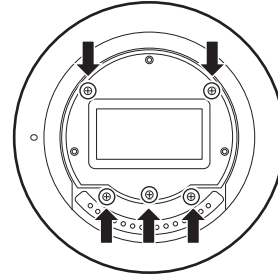

Fig. 2
- Do not remove the screw behind the IR cut glass. (Fig. 2)